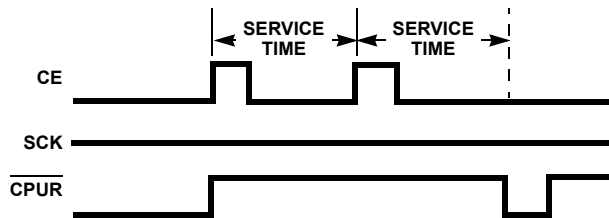

FIGURE 11. WATCHDOG OPERATION WAVEFORMS
3. Watchdog Reset (actually a non-transfer) Figure 11.
**Watchdog Reset (See Figure 11)**